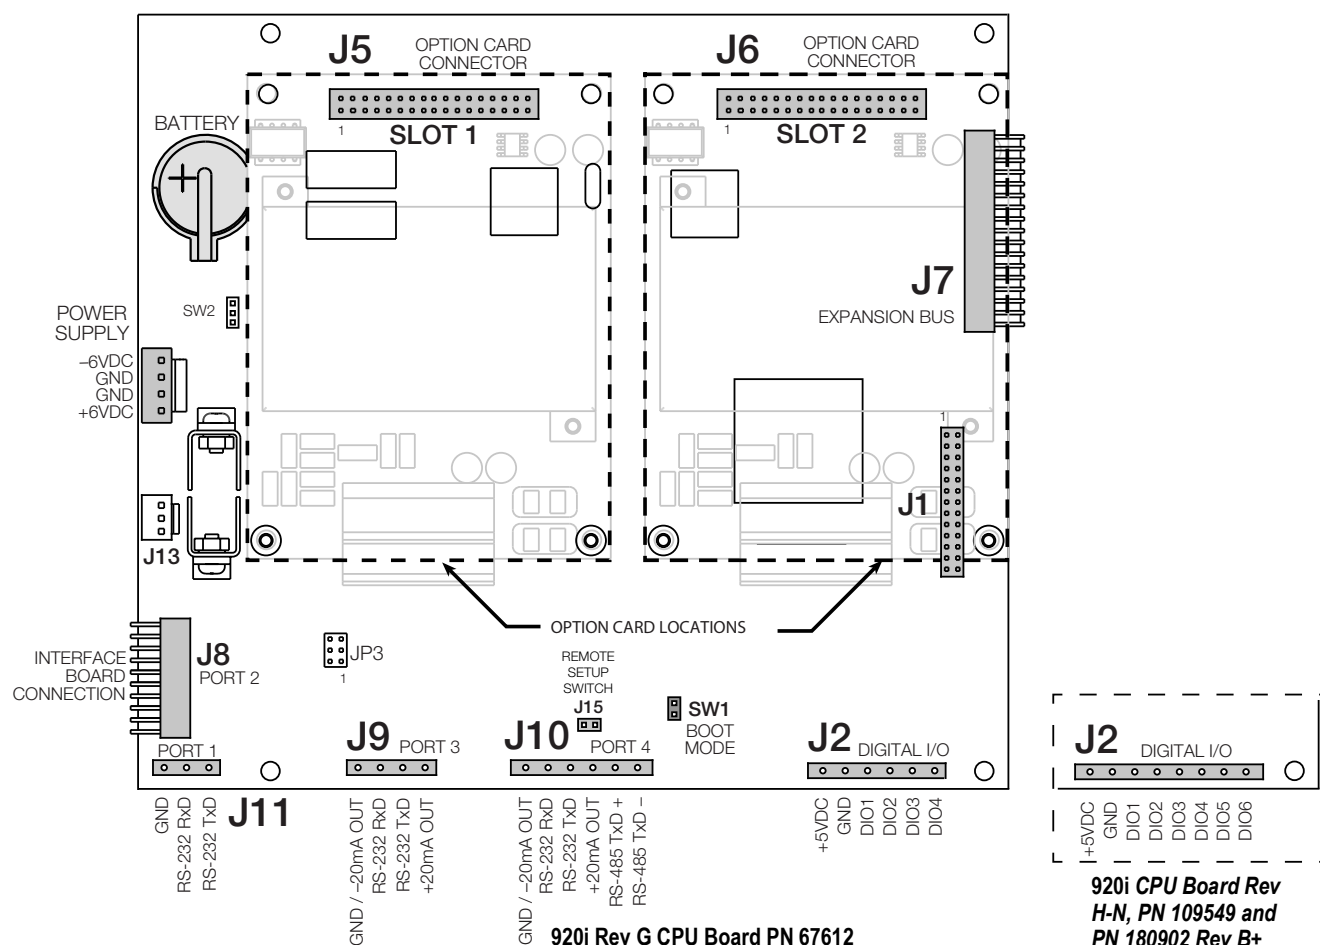

Figure 3-8. 920i CPU Board
7. Locate the battery inserted in the CPU board. See Figure 3-8 on page 24.